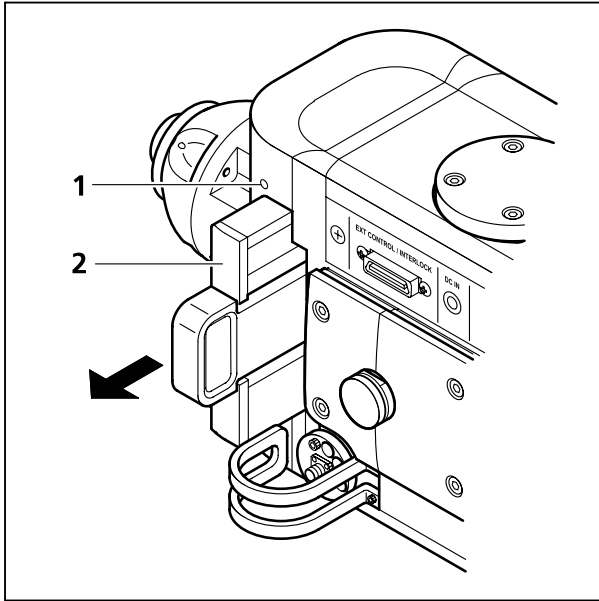

Fig. 4-11 Removal of emission filter insert
- Release the clamping screw (2.5" Allen key) (Fig. 4-11/1) at the spinning disc unit.
- Extract the filter insert (Fig. 4-11/2) from the front.